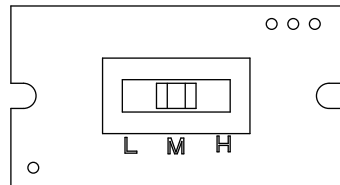

Figure 13
1. Slide the switch to adjust desired watts. (Figure 13)